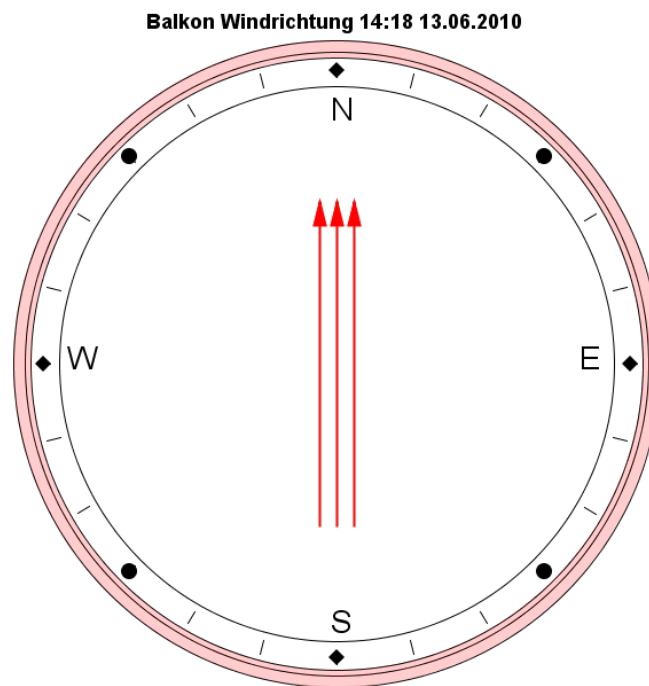

Figure 3.4: Current Wind direction plot
**Current** Use the last values for the plot. Currently this is only implemented for the wind direction. Results in an plot like Figure 3.4.